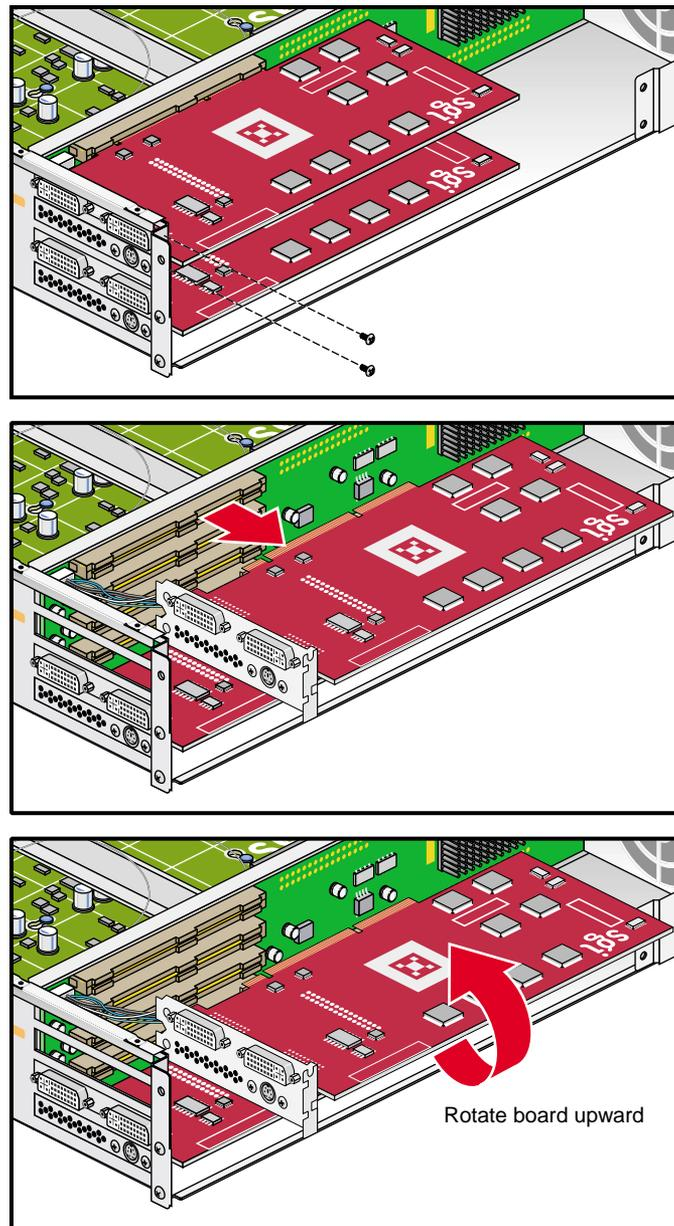

Figure A-16 Removing the Graphics Card Assembly
10. Undo and remove the two screws that hold the card to the back panel, as shown in Figure A-16.